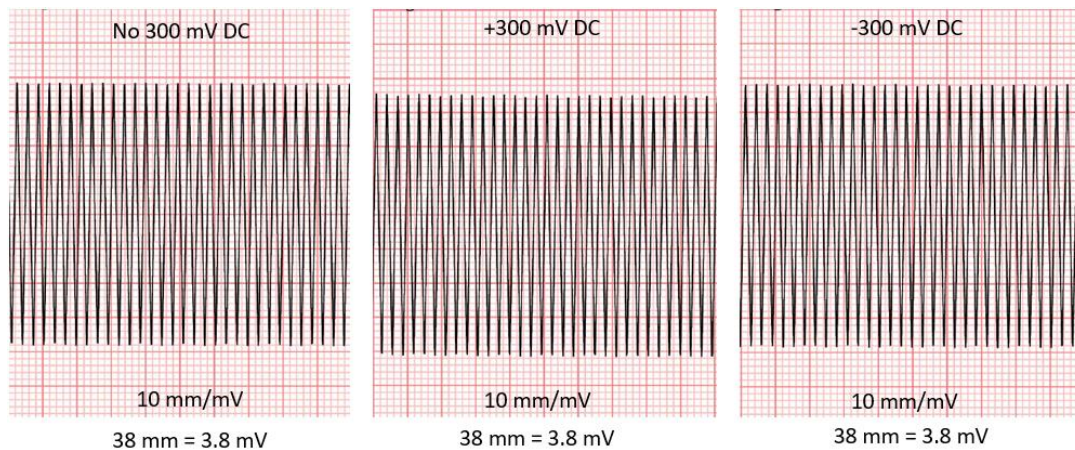

Figure 8, Input triangular wave, 16 Hz, 4 mV, without 300 mV DC and with +/- 300 mV DC offset voltage, the amplitude displayed by DUT ECG lead I.
- 13) Set a DC offset voltage of +300 mV and then -300 mV to measure the DUT ECG output amplitude. The amplitude is compared with the previously recorded amplitude A, and the deviation shall within  $\pm 10\%$ . Figure 8 shows the DUT ECG lead I amplitude displayed when without 300 mV DC offset applied and with +/- 300 mV DC offset applied. All three test results are 3.8 mV, so they pass the test.